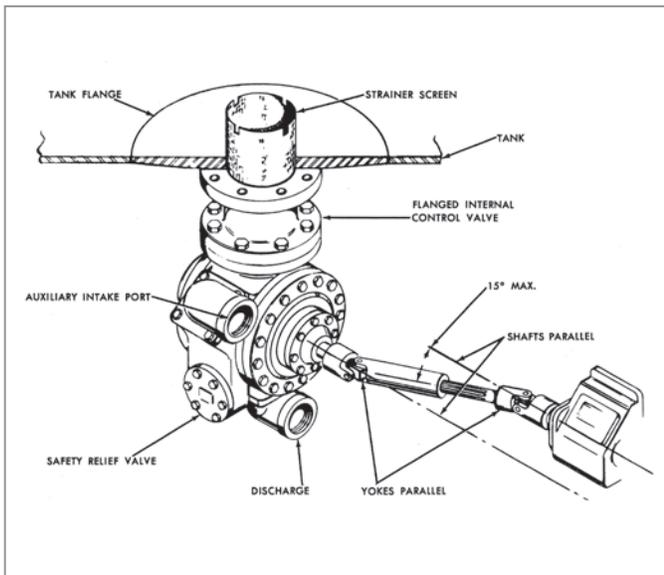
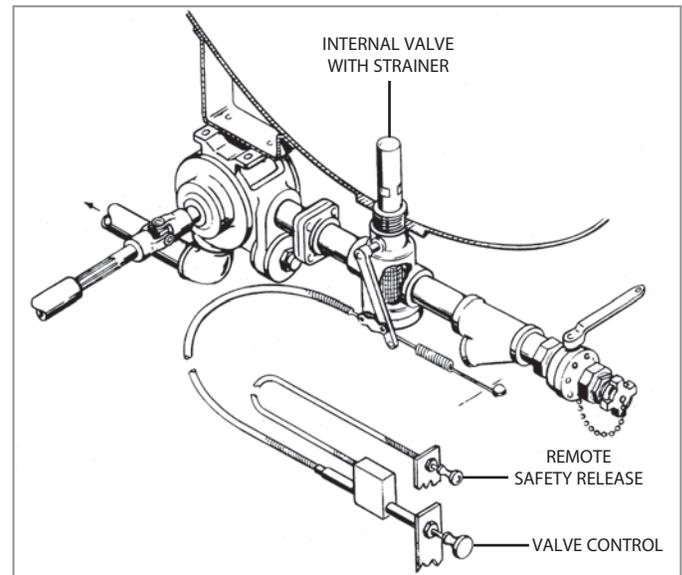

Figure 21
Figure 22
There are several methods of mounting and piping pumps on bobtails. Figures 21 and 22 show the arrangements most common, both of which use an internal tank valve with excess flow capability. An internal valve is mandatory. NFPA Pamphlet No. 58 requires that liquid unloading connections on tank trucks be equipped with remotely controlled internal shut-off valves. They are either flanged to the tank, as shown in Figure 21, or threaded, as in Figure 22. The valve can be actuated in any of several ways: hydraulic, using pump discharge pressure or an oil hydraulic system, cable control or pneumatic power.
**The Flange-mounted Pump** (Figure 21) is the ultimate in simplicity of mounting and has the least restriction of flow into the pump. This style is particularly valuable when flow rates of 60 gpm (227 L/min) or more are desired.
**The Foot-Mounted Pump** (Figure 22) can be mounted on a pad welded to the tank when an internal valve with a sided outlet is used. This eliminates the need for a flexible pipe connector, which is usually necessary on pumps attached to the chassis. The foot-mounting arrangement requires the use of flanged connectors. The internal valve is equipped with a strainer which must be cleaned periodically.